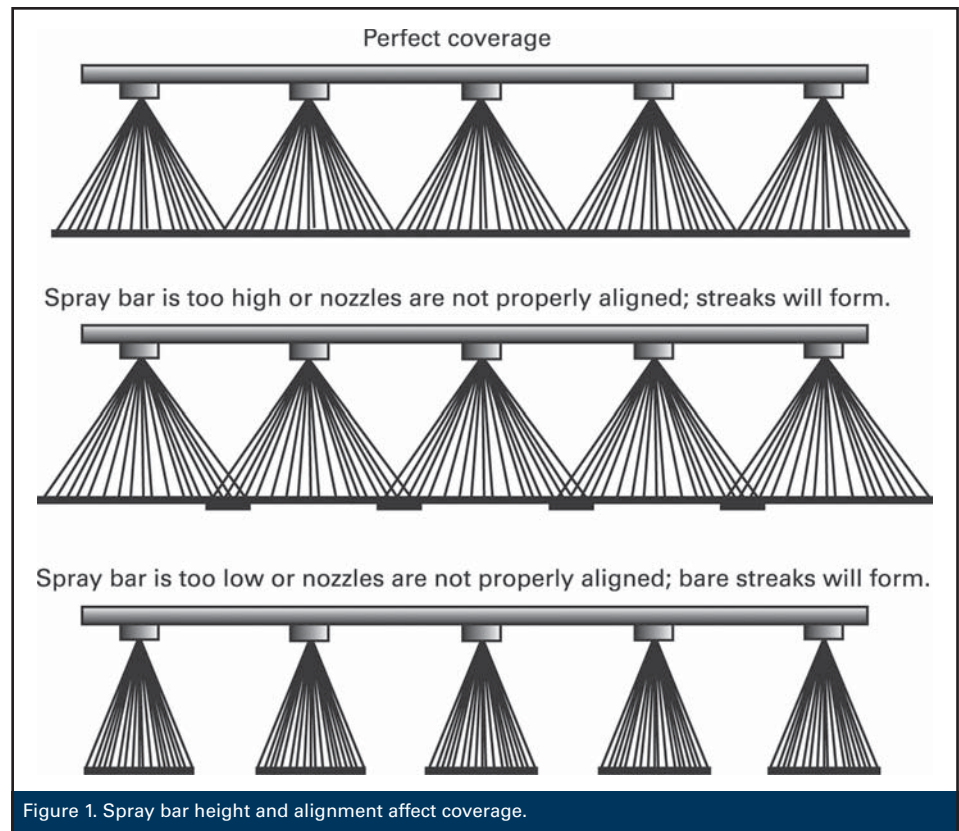

Figure 1. Spray bar height and alignment affect coverage.
- Align the binder application with the center line of the road. Align the nozzles and set the spray bar height as appropriate. See figure 1.